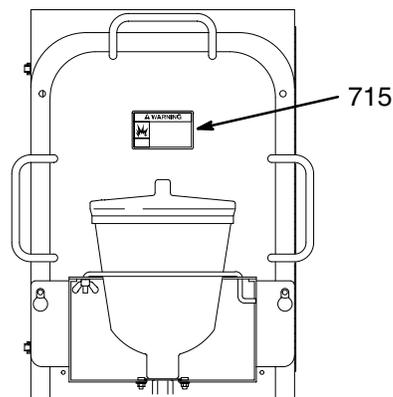

Fig. 4
1. Install the two flange bolts (709) partway into the ValueMix frame (4). Hang the solvent hopper support (706) on the bolts and tighten.
2. Place the hopper screen (702) in the bottom of the hopper (701).
3. Place the washer (703) on the male end of the adapter (705). Install an o-ring (704) on the adapter and screw the adapter into the base of the hopper.
4. Screw the reducing nipple (713) into the adapter (705) and screw the elbow (711) onto the reducing nipple.
5. Install the shoulder screws (717), washers (718), and nuts (719). Place the hopper in the support (706) so the washer (703) fits between the shoulder screws and the support. Install the retaining rod (707) in the holes of the support and secure with the wingnut (716) to hold the hopper in place.
6. Connect the length of tubing (710) to the elbow (711) and to the fluid inlet of the solvent pump (131).
7. Attach the warning label (715) to the center of the back panel, as shown in Fig. 4.